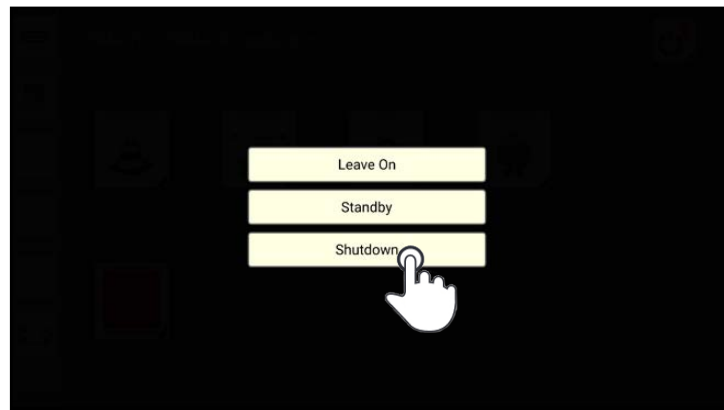

Fig. 99: Shutting down SMART COMMAND
3. Tap "Shutdown" (see Fig. 99).